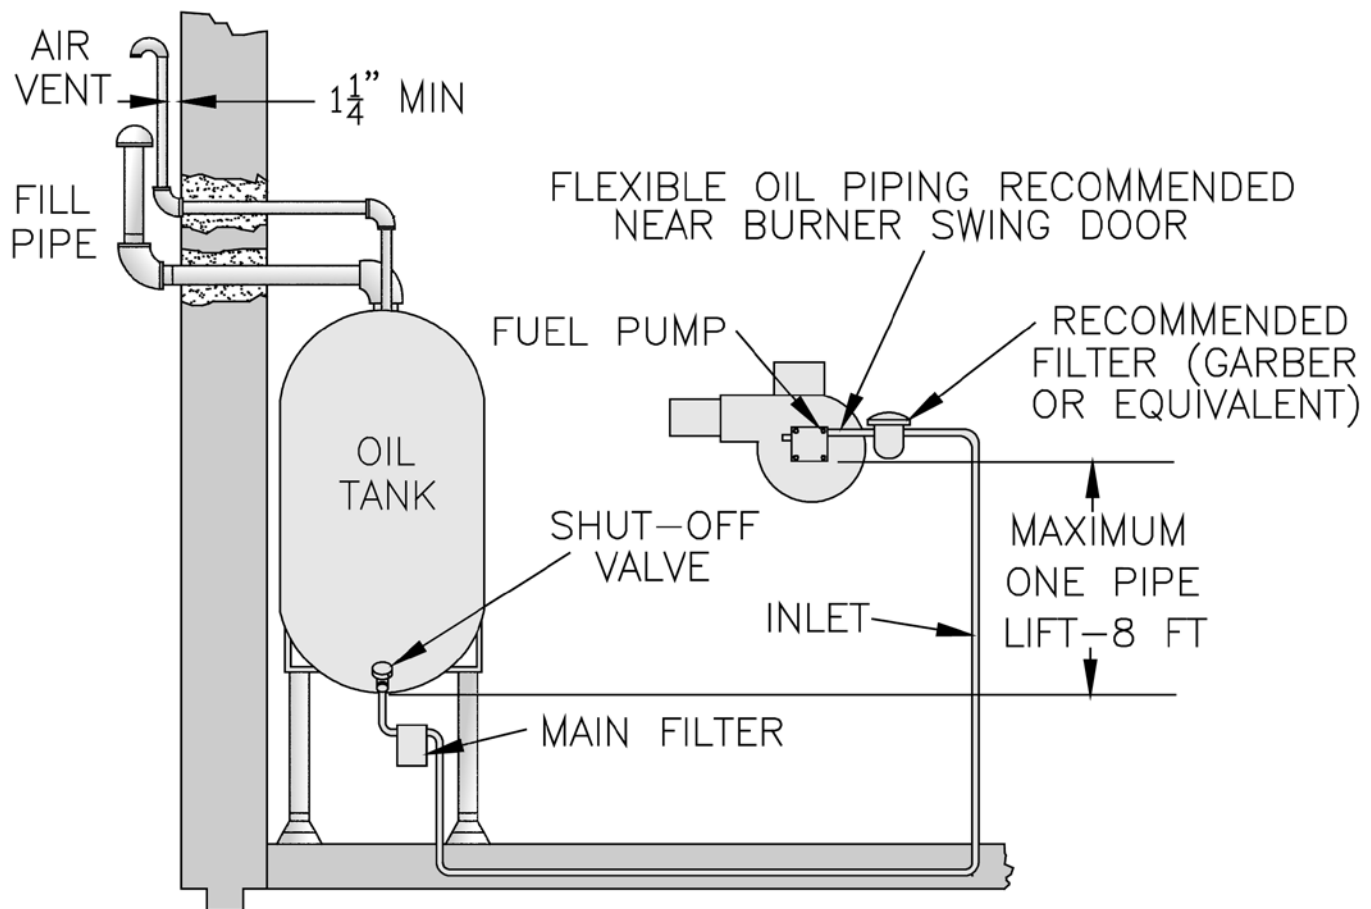

Figure 18: Single-Pipe Installation
2. The single-stage fuel unit may be installed single-pipe with gravity feed or lift. Maximum allowable lift is 8 feet. See Figure 18.